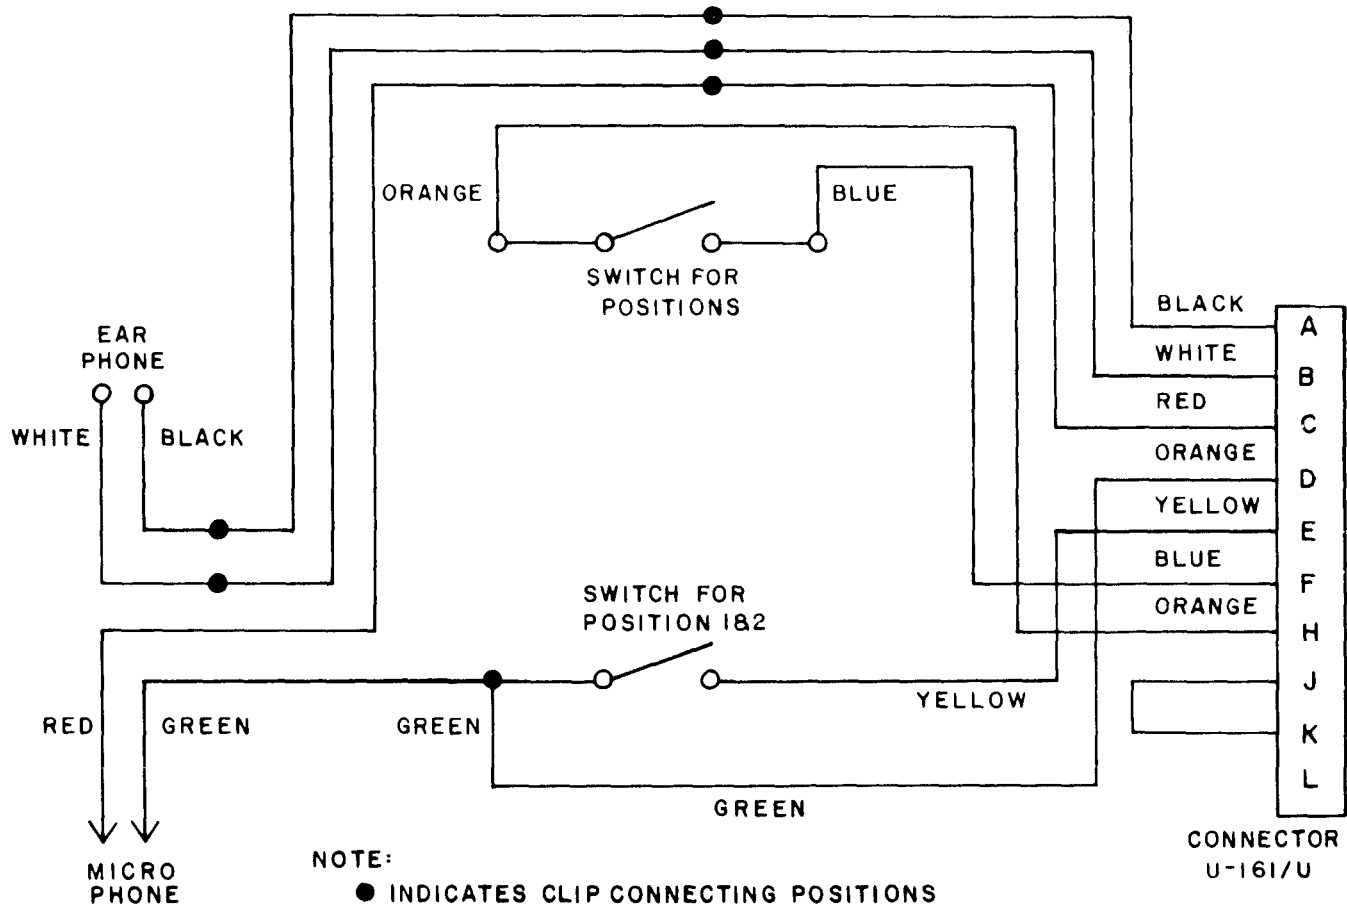

Figure 2-9. Operator's Headset Wiring Diagram.
- (2) Connect the seven leads to the terminals on the plug insert. Make sure that the leads are connected to the correct terminals by referring to figure 2-9.
- (3) Replace the plug insert in the plug body, and replace the plug shell on the plug body. Secure the plug shell in position with the plug assembly screws.
- (4) Slide the strain relief spring and the plug bushing down the cord to the plug body. Screw the plug bushing into the plug body to secure the strain relief spring in position.